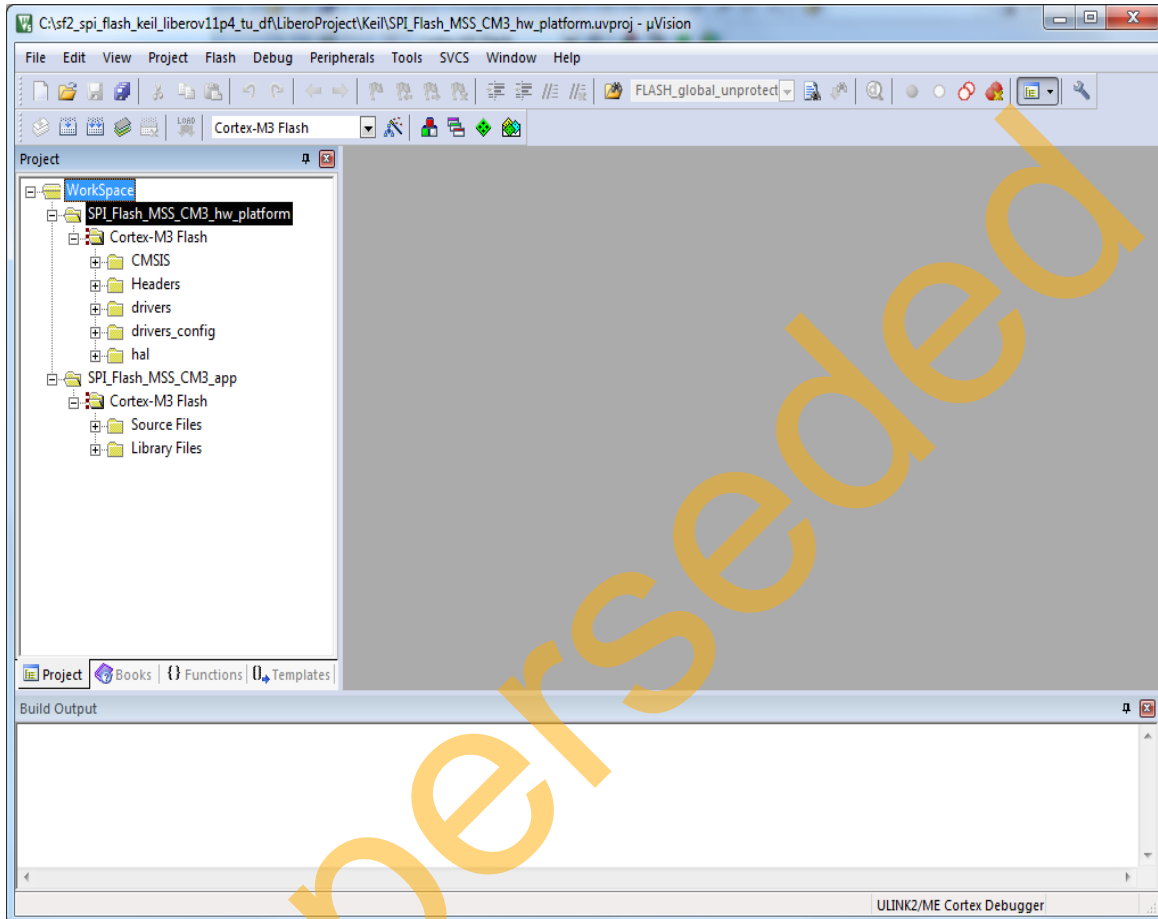

Figure 20 • uVision Workspace
1. Launch the Keil IDE, as shown in Figure 20.